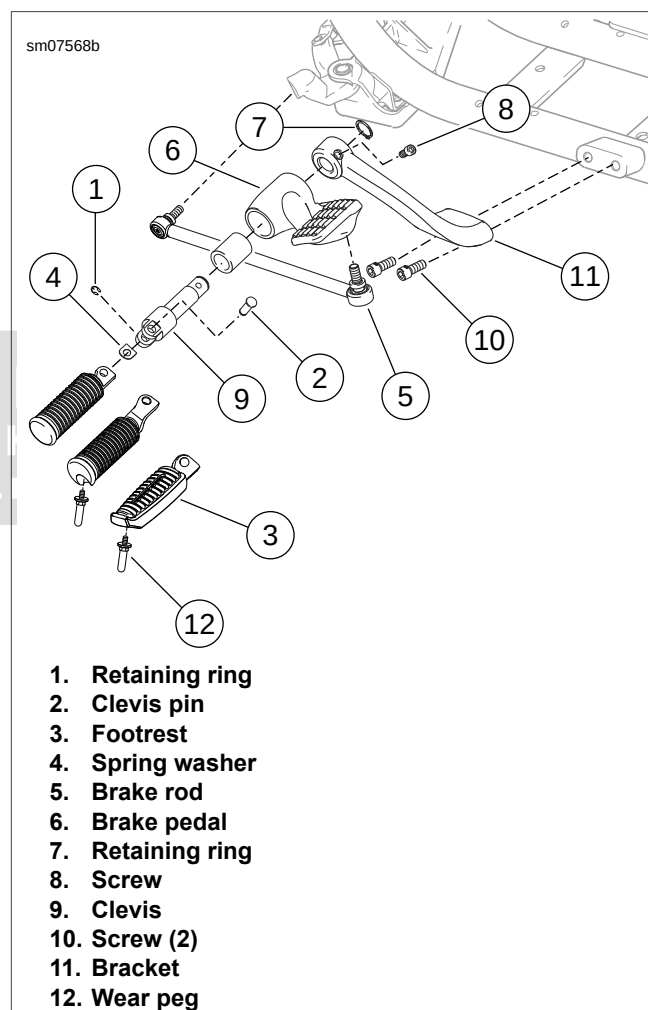

Figure 2-230. Right Footrest and Rear Brake Pedal
2. See Figure 2-230. Remove retaining ring (1), clevis pin (2), footrest (3) and spring washer (4). Discard retaining ring.
3. Remove brake rod (5) from brake pedal (6) and master cylinder bell crank.
4. Remove retaining ring (7), screw (8) and clevis (9). Discard retaining ring.
5. Remove two fasteners (10) and right rider footrest/brake pedal support bracket (11) from frame.